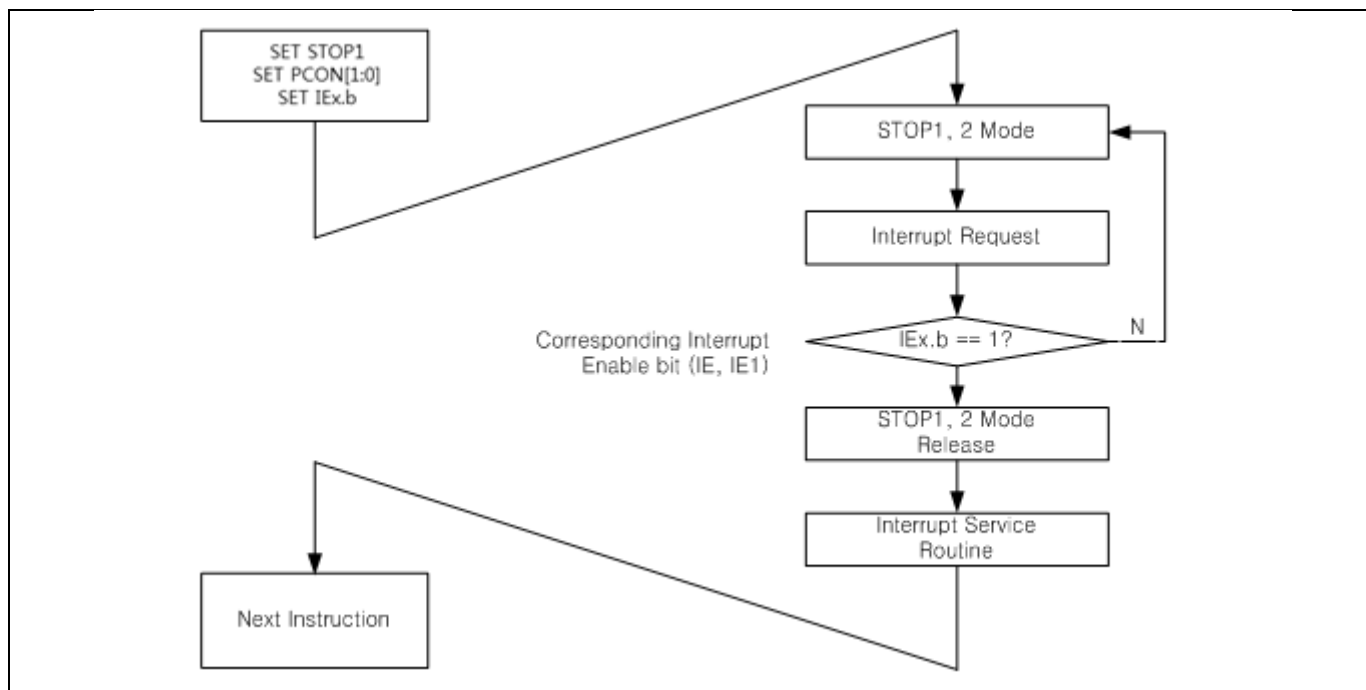

Figure 12.3 STOP1, 2 Mode Release Flow
After STOP1, 2 mode is released, the operation begins according to content of related interrupt register just before STOP1, 2 mode start (Figure 12.3). Interrupt Enable Flag of All (EA) of IE should be set to `1`. Released by only interrupt which each interrupt enable flag = `1`, and jump to the relevant interrupt service routine.